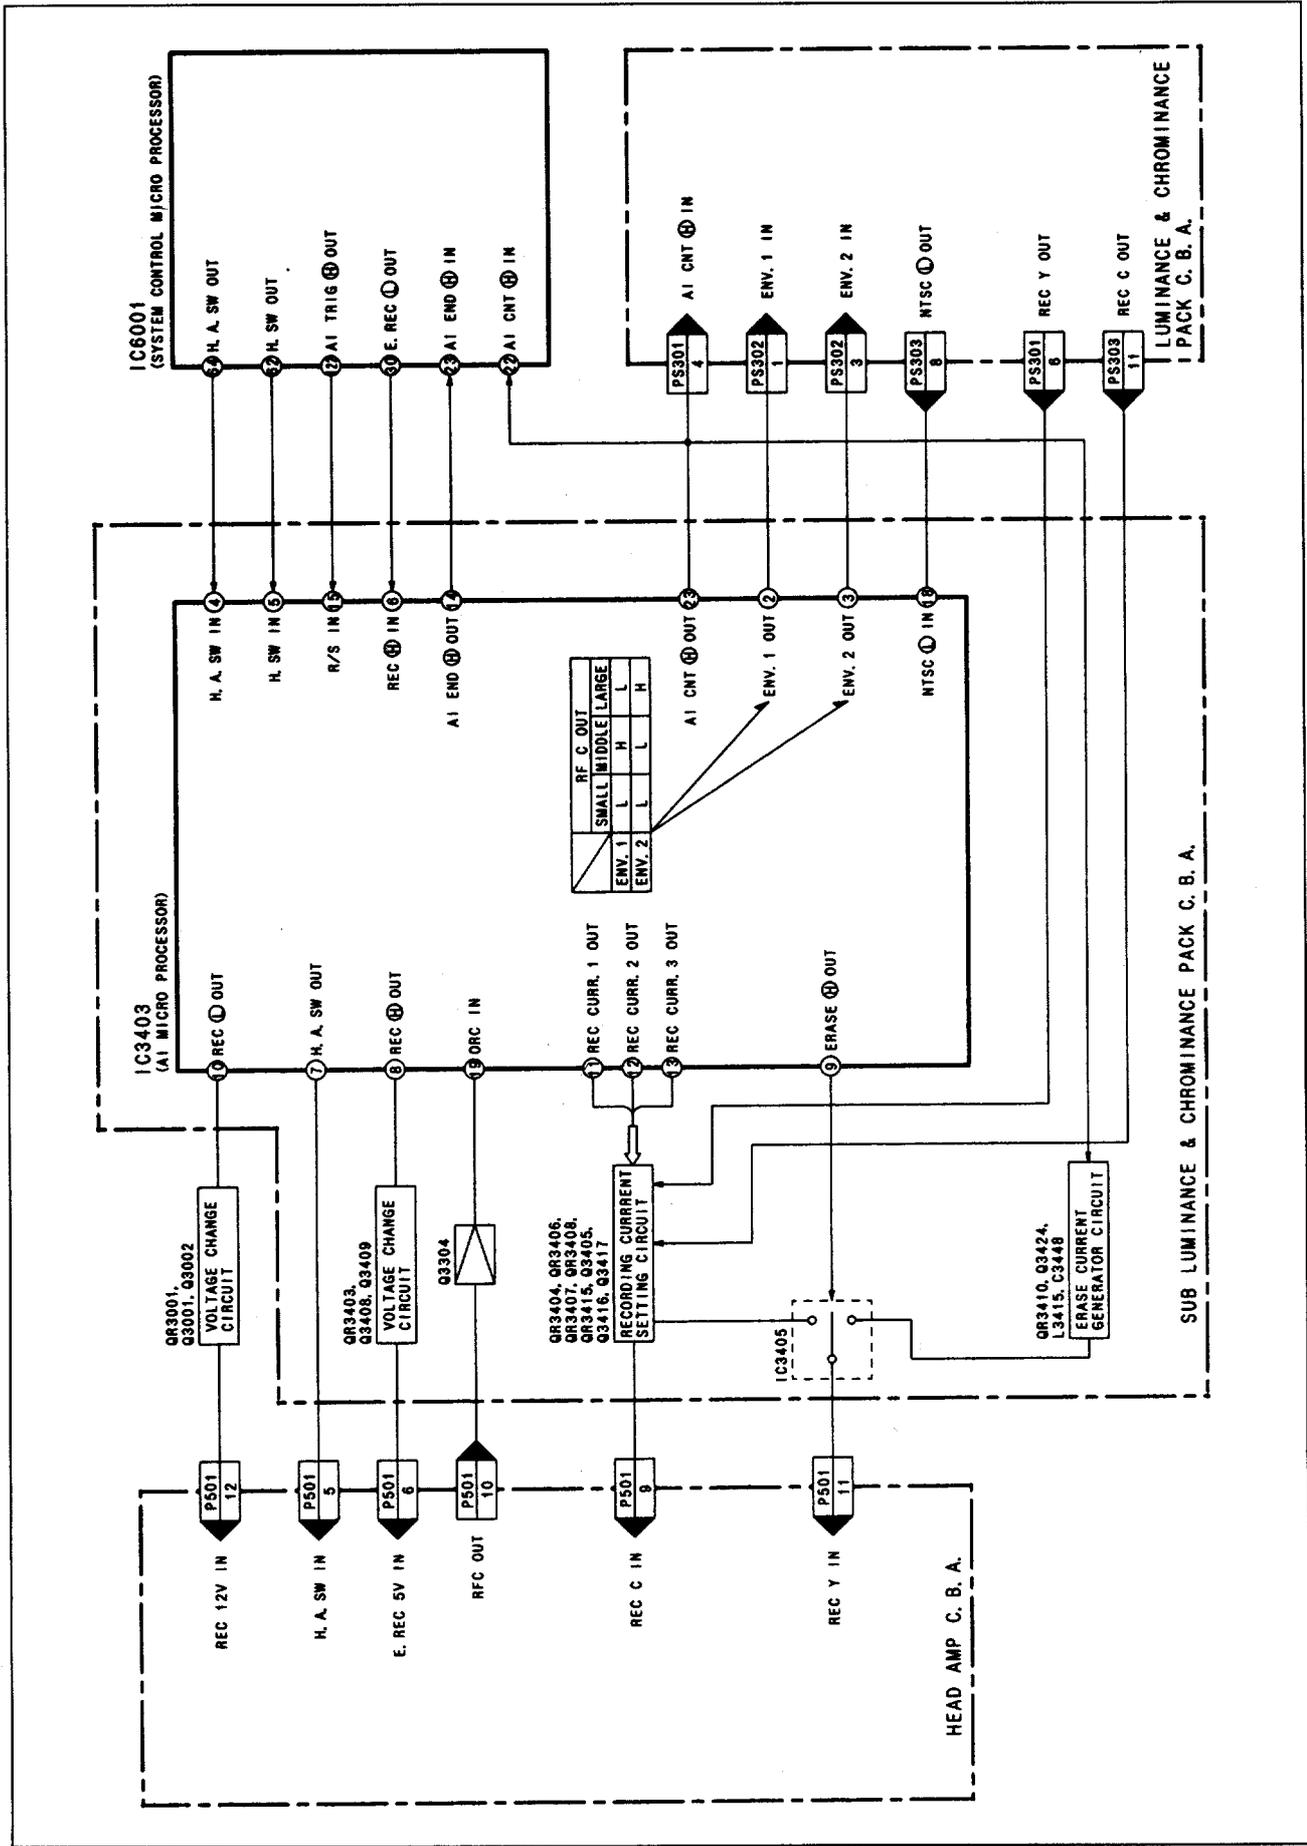

Fig. A1 Simplified AI Function Block Diagram
- 1) When the AI is turned on, the AI TRIG (H) signal is supplied to IC3403 from pin 122 of IC6001. The AI CNT (H) is supplied to the Lumi./Chro. Pack C.B.A., IC6001 and the Erase Current Generator circuit.
- 3) After receiving the RF C signal, the IC3403 supplies ENVE1 and ENVE2 to the Lumi./Chro. Pack as shown in Fig. A1.